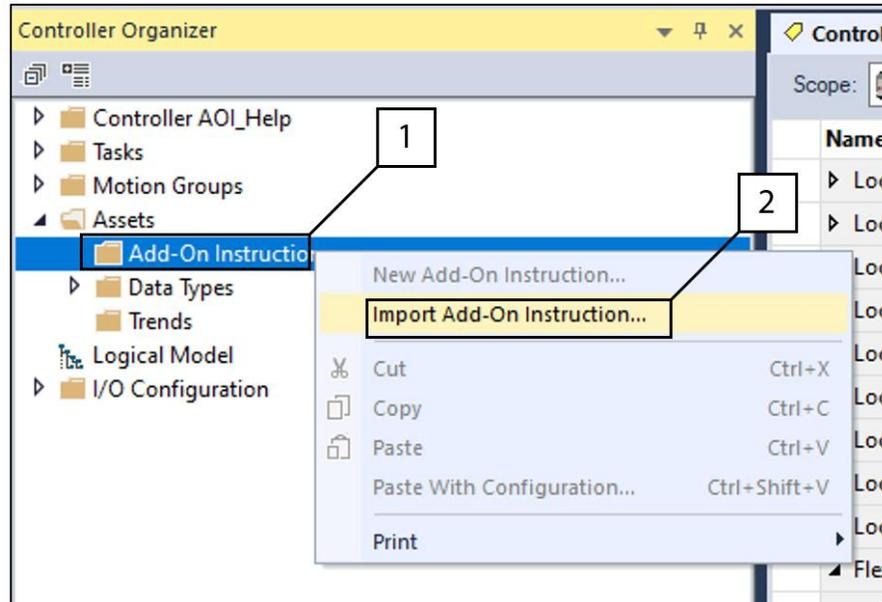

Figure 13 Controller Organizer – Add-On Instructions – Import Add-On Instruction
1. From the Control Organizer screen, right-click **Add-On Instructions** (Figure 13 [1]) and select **Import Add-On Instruction...** (Figure 13 [2]).